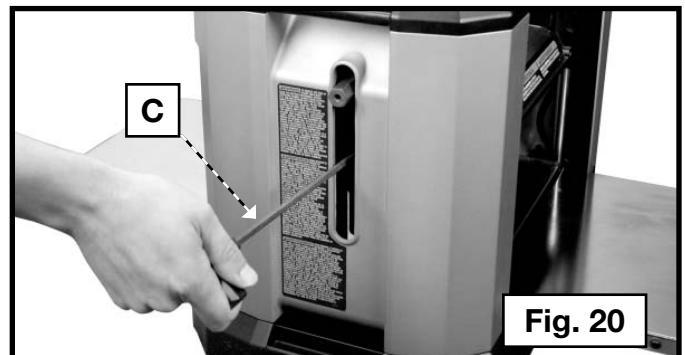

Fig. 20
3. Insert the supplied wrench (C) Fig. 20 into the hex hole. Rotate the cutterhead until the cutterhead lock engages.
6. Repeat steps 3 through 5 to remove the other two knives. Press down the cutterhead lock release and use the supplied wrench (C) Fig. 20 to rotate the cutterhead lock until the lock engages and the next knife is in position to be removed.